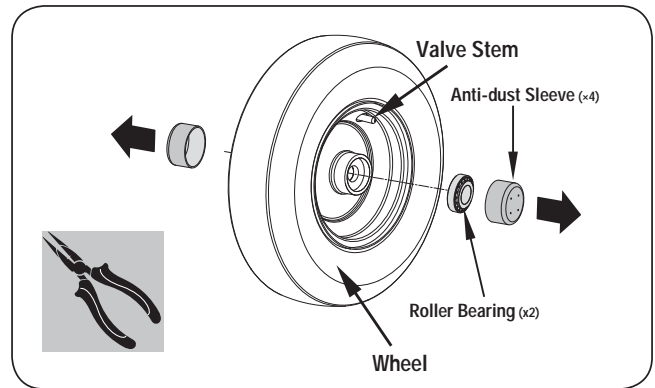

Figure 3a
1. Remove the anti-dust sleeves from the wheels. Take the roller bearings from the wheels and set aside for later use. (See *Figure 3a.*)